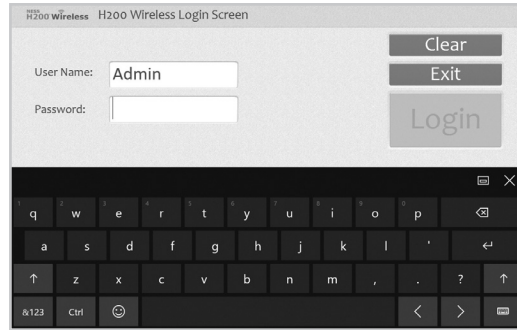

Figure 8-7: Login Screen
2. From the Login screen, enter a user name and password, and then press Login. See Figure 8-7.